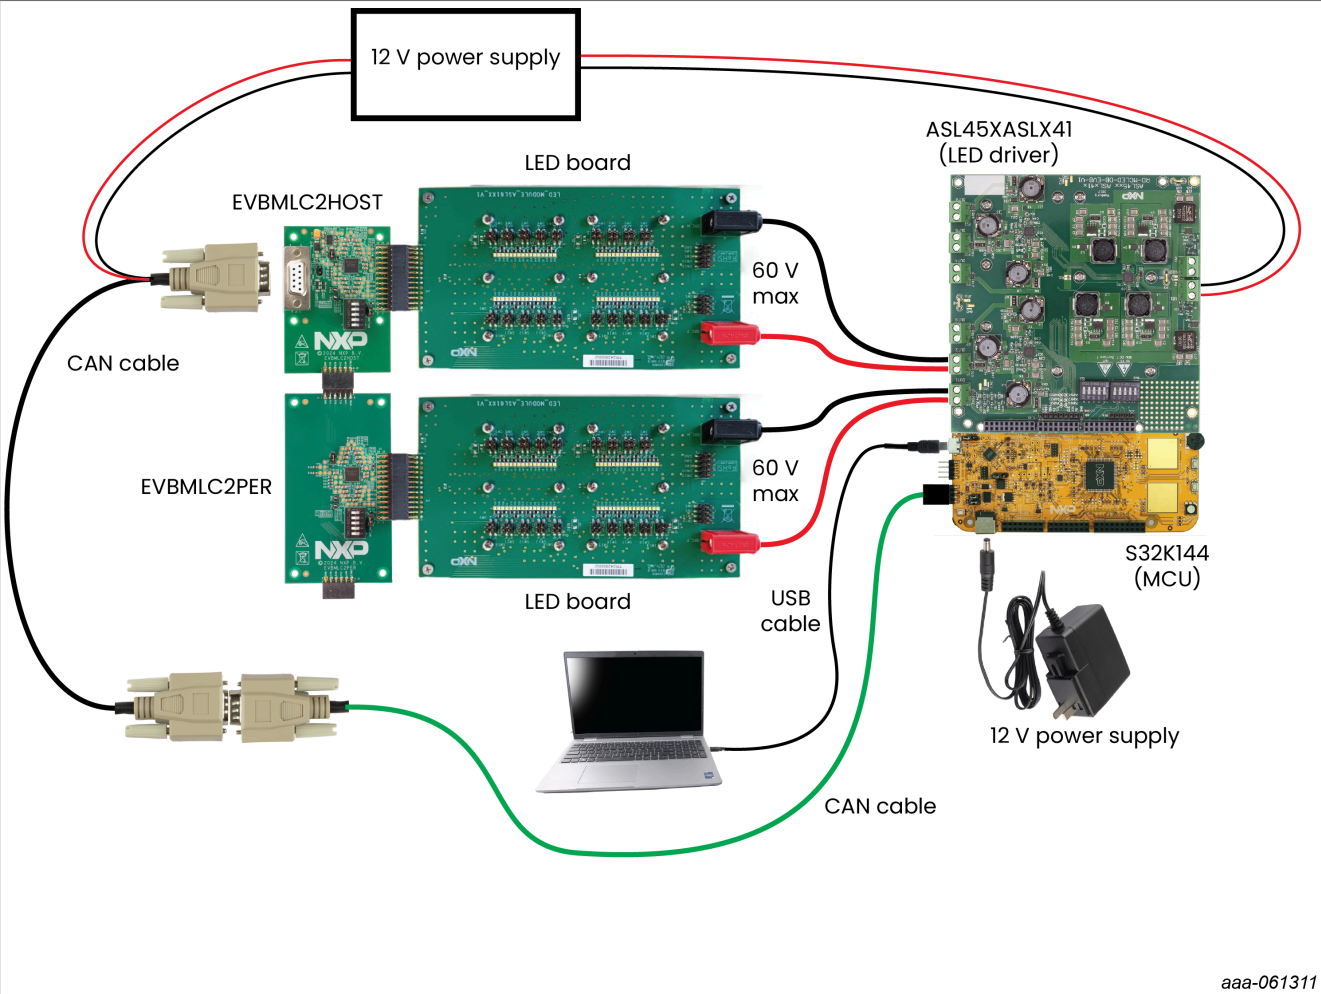

Figure 3. Additional material
- MLC2 CANoe project. The required material and setup information are shown in Figure 3. This is an option needing additional hardware - a Vector CAN interface - and the CANoe software. Detailed usage instructions can be found in ASL61XXYHZ_AN - an application note.